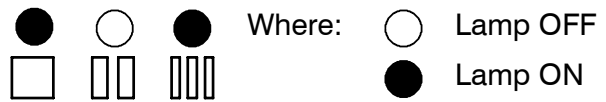

Fig. 8.3
- 12 Press the reset button 7 repeatedly (4 times) until the lamps 10 give the indication as in Fig. 8.3 (gas type mode).